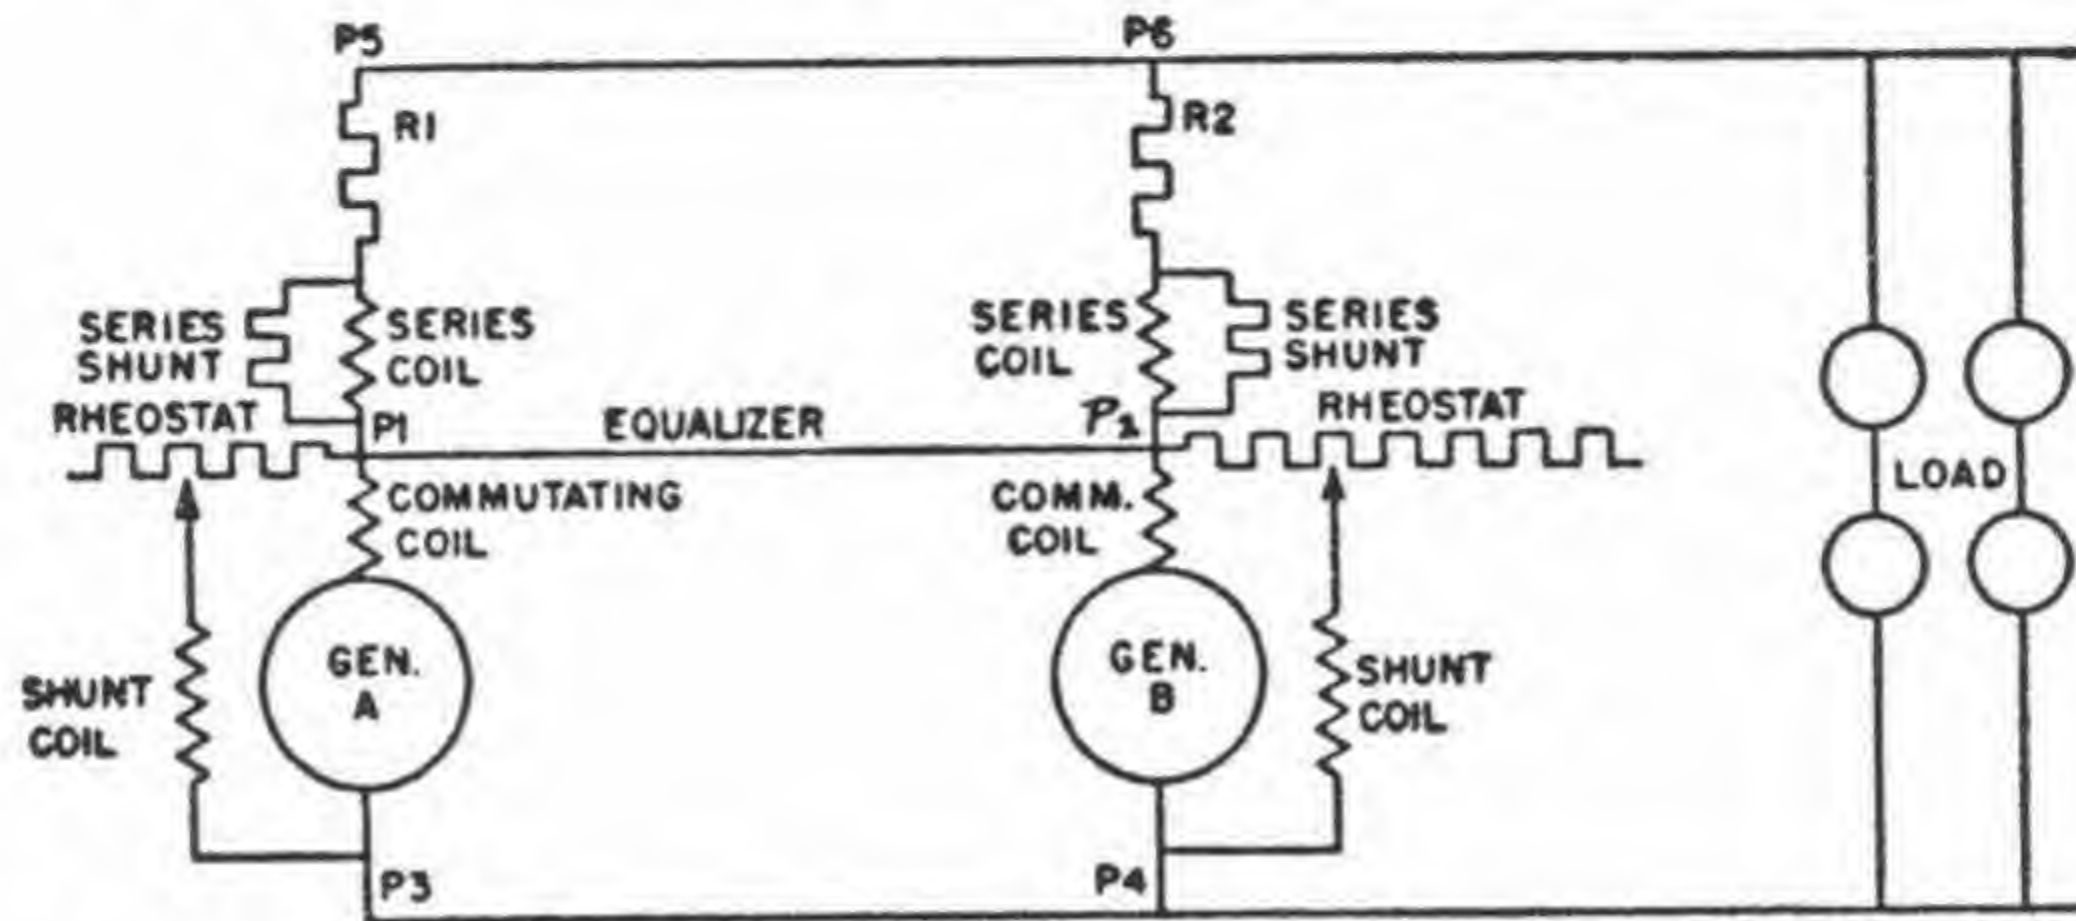

Fig. 3—Connections for Compound Generators in Parallel—Generators Close Together
Fig. 3 shows two compound generators connected in parallel in the usual manner. The generators are assumed to be close together, with the equalizer and buses so short that their resistances are negligible. The equalizer is used to keep points P1 and P2 at the same potential.
Curve A is for a 50-kw, 250-volt generator, and curve B for a 100-kw, 250-volt generator. The points P3 and P4, P5 and P6 in Fig. 3 are the points of paralleling, the equalizer connection being open and the curves taken between those points. If a total load of 600 amps is put on the two machines, each may for a short time carry the proper proportion of load, that is, its rated load. However, at some time there will be
- (8) Connect a total load approximately equal to the combined ratings of the generators, leaving all the adjustments just made unchanged, and measure the current flowing between points P1 and P5. Also measure the current between points P2 and P6.
- (9) Adjust a resistance in series with one of the series fields, as R1 or R2 (Fig. 3) but not both, such that the currents will divide between the fields in proportion to the ratings of the machines. In the case of the generators assumed the resistance should be so adjusted that $\frac{1}{3}$ of the total current flows between P1 and P5, and $\frac{2}{3}$ between P2 and P6.
- (10) Check the division of load between the two generators. It should be good.